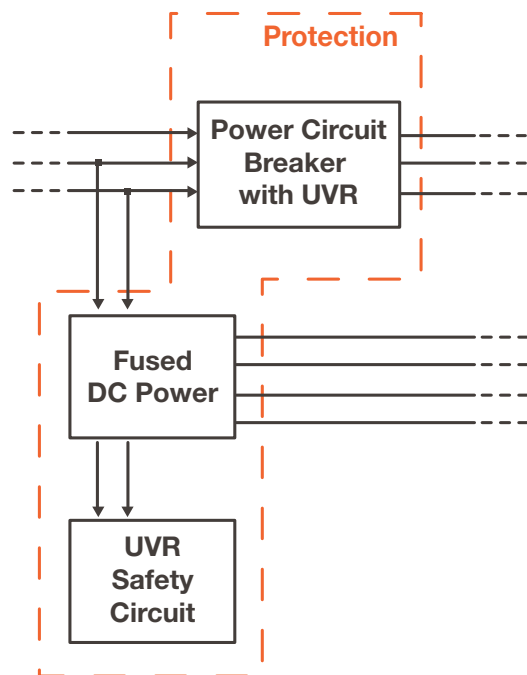

Figure 3-8: Protection Circuit Block Diagram
**Figure 3-8** represents the protection circuit block. This circuit breaker is a means to safely prevent energy from transferring to the power circuit. The under voltage relay (UVR) will automatically disconnect power during unsafe conditions. The fused DC power supply provides the correct voltage to the control circuit and other circuit boards, while the UVR safety circuit is responsible for the automatic triggering of the UVR. Unsafe conditions such as open doors or an actuated e-stop button will trigger the UVR and disconnect power via the power circuit breaker.